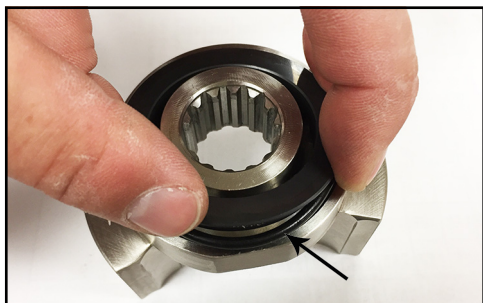

Figure 217 - Seal O-ring pinched
11. If the O-ring is pinched as shown in Figure 217, push in the O-ring with the O-ring removal tool while inserting the seal. (For part number, see "O-ring Removal Tools" on page 122.)